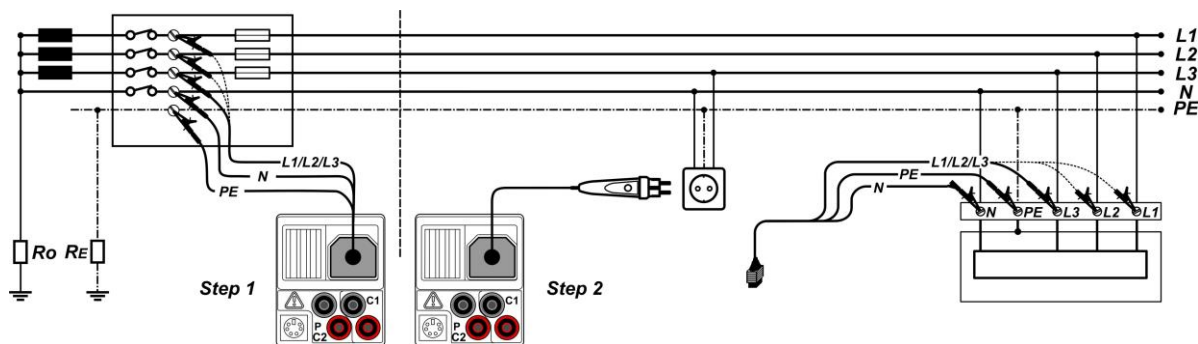

Figure 5.30: Phase-neutral or phase-phase voltage drop measurement – connection of plug commander and 3-wire test lead
- Connect** the test leads to the origin of electrical installation (see figure 5.30).
- Connect** the test leads to the tested points (see figure 5.30).